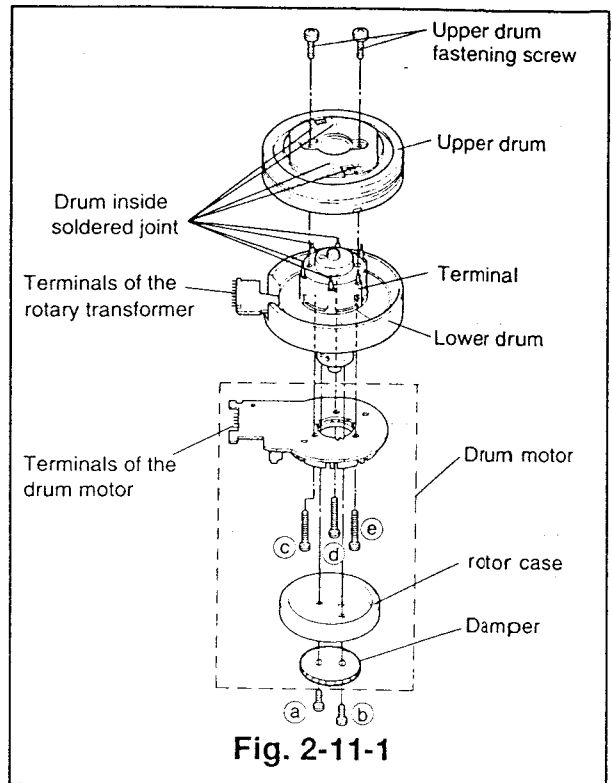

Fig. 2-11-1
- ① Remove the drum assembly. (Refer to Para. 2-10 for the removal method.)
- ② Unsolder the terminals of each head on the upper drum.
- ③ Remove the screws holding the upper drum shown in Fig. 2-11-1.
- ④ Remove the upper drum slowly and carefully.
- ⑤ Remove the screws (a) and (b) shown in Fig. 2-11-1 to remove the rotor case and damper. Remove the screws (c, d and e) to remove the drum motor.